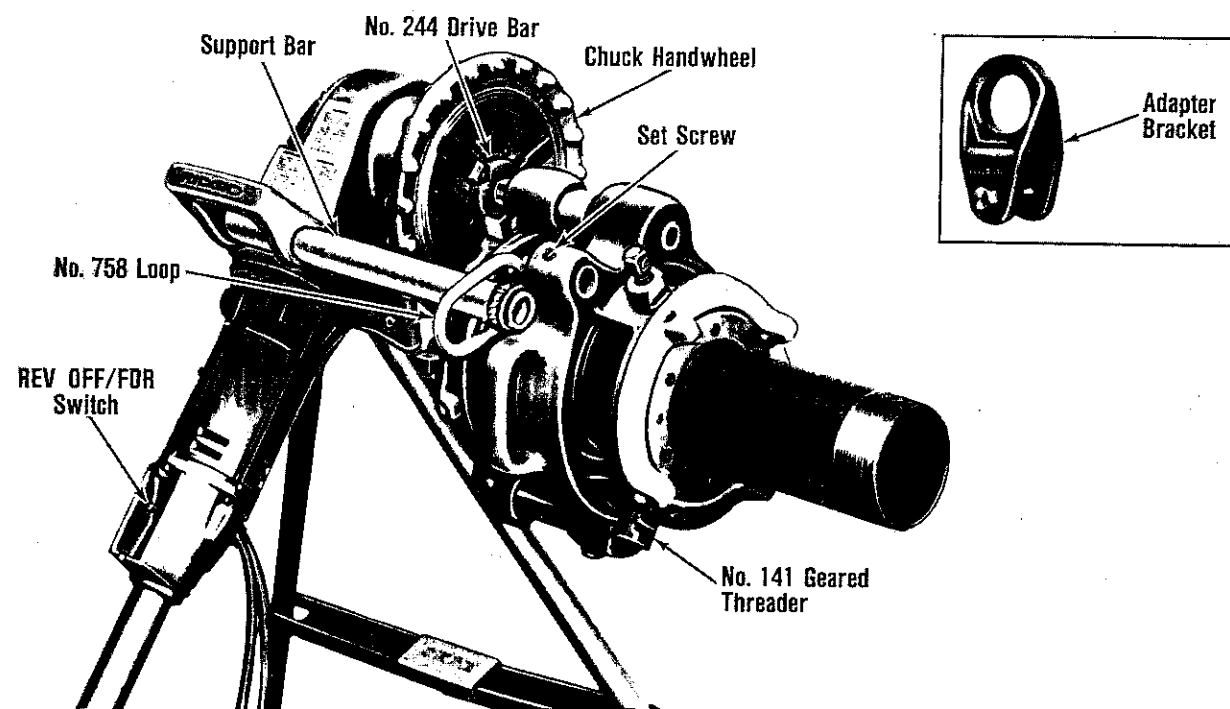

Figure 14. No. 141 Geared Threader Close-Coupled to Power Drive (No. 4PJ Similar).
3. Two men pick up Threader and Insert Drive Bar into chuck of Power Drive (Fig. 14). Tighten Power Drive Chuck Jaws into three "V" shaped grooves in head of Drive Bar.
4. Pull out Support Bar (Fig. 14).
5. Slip No. 758 Loop over Support Bar and secure to Gear Case loop with Set Screw (Fig. 14).
**Note:** Use No. E-3675 Adapter Bracket (Fig. 14), in place of No. 758 Loop, on all 141 and 4PJ Threaders without loop hole on Gear Case.